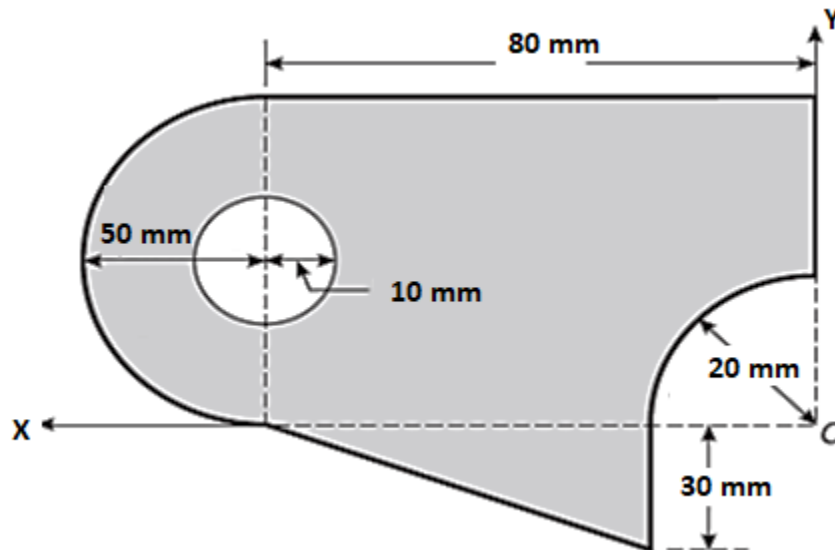

Fig.1
- (Q.1) Locate the Center of Gravity with respect to x and y axis for the **built-up cross section** as shown in Fig.1. Also, compute the Moment of Inertia about $x'-x'$ and $y'-y'$ axis (Centroidal axis). **(6 Marks)**